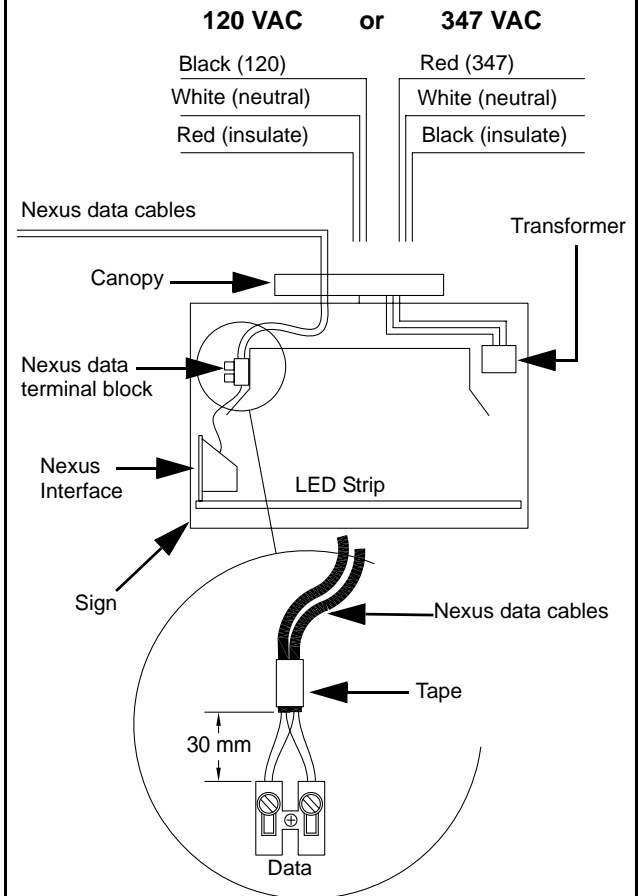

Figure 7
**Note** — For the Nexus models wiring, go to the section “Nexus Models” (see fig. 7).
Refer to figure 7 for the wiring of Nexus models.